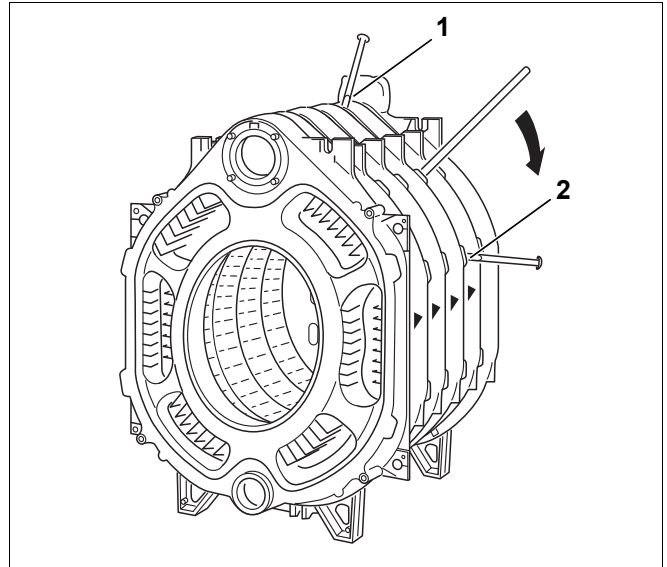

Fig. 22 Separating the boiler block
- Separate the boiler sections by driving (hammering) flat wedges or chisel at the points provided (→ Fig. 22, [1] & [2]) at the top and bottom between the relevant sections.